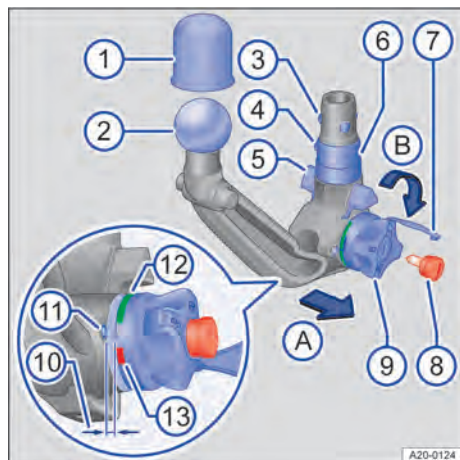

Fig. 157 Overview: Detachable ball coupling.
4. Check to ensure that the mounting, handwheel → Fig. 157 ⑨, shank ⑥ and the retaining balls ③ of the ball coupling are all clean and not damaged → ①. Clean if necessary.
1. Grasp the ball coupling underneath the ball coupling → Fig. 157 ② with one hand.
2. Remove the lock cap → Fig. 157 ⑦ from the lock and insert the key ⑧ into the lock.
3. Turn the key → Fig. 157 ⑧ anticlockwise.
4. Use your other hand to pull out the handwheel → Fig. 157 ⑨ in the direction of arrow A and hold it in this position → ⚠.
5. Turn the handwheel → Fig. 157 ⑨ in the direction of arrow B until it engages. The ball coupling is now pre-tensioned. The red marking ⑬ on the handwheel must point towards the white marking ⑪ on the ball coupling. The handwheel protrudes clearly from the ball coupling. The gap between them is approximately 4 mm ⑩.
6. Check to see whether all retaining balls → Fig. 157 ③ can be pressed fully into the ball coupling shank ⑥.
2. Push the ball coupling firmly upwards until it engages. Both centring devices → Fig. 157 ⑤ must engage in the mounting points on the vehicle.
3. The handwheel → Fig. 157 ⑨ has now returned to its original position. There is no longer a gap between the handwheel and the ball coupling.
4. Turn the key → Fig. 157 ⑧ in the handwheel clockwise and remove it.
5. The handwheel → Fig. 157 ⑨ may now no longer be pulled out.
6. Fit the lock cap → Fig. 157 ⑦ on the lock and place the key in the stowage box.
1. The green marking → Fig. 157 ⑫ on the handwheel must point towards the white marking on the ball coupling ⑪.
2. The handwheel → Fig. 157 ⑨ must rest on the ball coupling and there must be no gap between them.
3. Shake or pull down on the ball coupling → Fig. 157 with some force. It must sit firmly in the mounting → ⚠.
4. The lock must be locked and the key → Fig. 157 ⑧ removed.
5. The lock cover → Fig. 157 ⑦ must cover the lock in the handwheel.
- Never use the towing bracket if the smallest diameter of the ball → Fig. 157 ② is less than 49 mm.